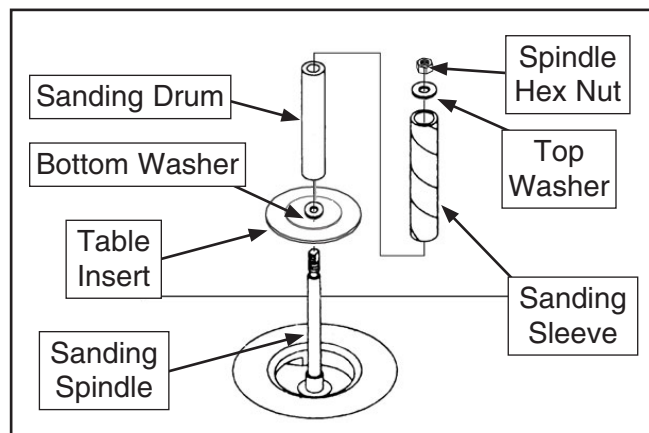

Figure 14. Assembly order.
3. Remove sanding spindle hex nut and top washer (see **Figure 14**).
7. Re-install sanding spindle assembly as illustrated in **Figure 14**.